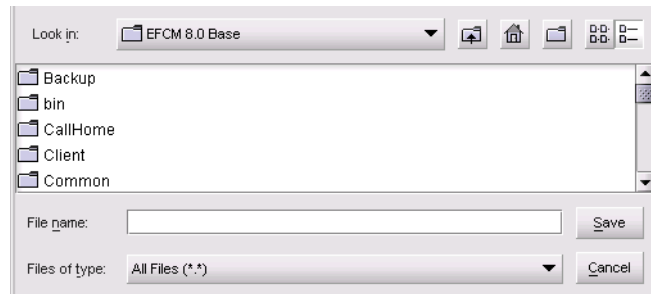

Figure 4-42 New Firmware Version Dialog Box
18. Click *New*. The *New Firmware Version* dialog box displays (Figure 4-42).